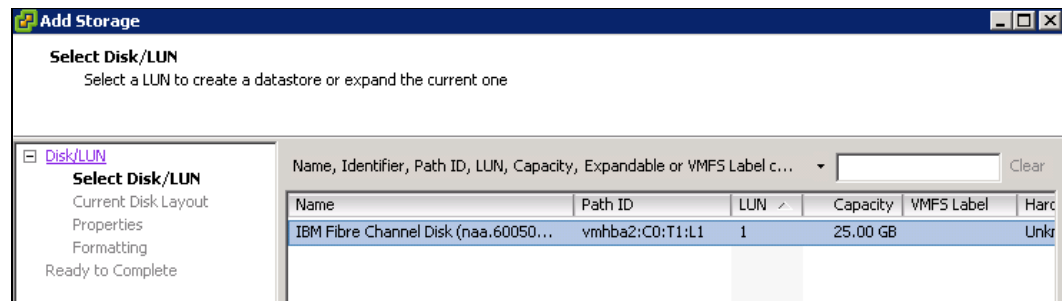

Figure 5-49 Select Disk/LUN menu
5. The Add Storage wizard opens. Click **Select Disk/LUN** and click **Next**. The IBM Storwize V7000 disk is displayed (Figure 5-49). Select it and click **Next**.